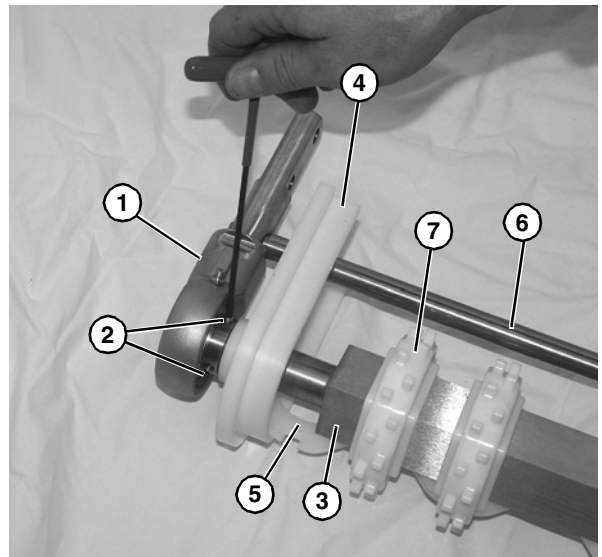

Figure 60
9. Remove the bearing cover from bearing shaft assembly (**Figure 60, item 1**).
10. Use a hex wrench to loosen two set screws (**Figure 60, item 2**) on the bearing shaft assembly (**Figure 60, item 1**).
11. Slide the bearing shaft assembly off of the drive spindle (**Figure 60, item 3**). Slide bearing shaft assembly off the drive spindle on opposite side.
12. Remove pinch guard (**Figure 60, item 4**) on each side.
13. Remove sprocket alignment bar (**Figure 60, item 5**), and pinch guard shaft (**Figure 60, item 6**).
14. Remove the sprockets (**Figure 60, item 7**).